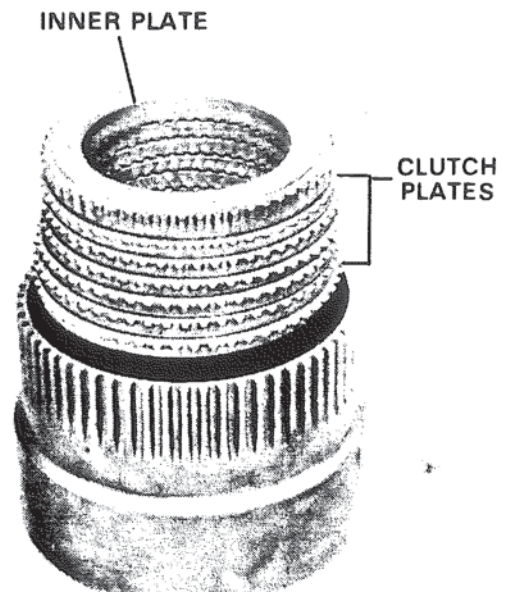

Figure 49. Installing Forward Clutch Plates.
4. Lubricate seven (7) clutch inner plates and six (6) outer clutch plates, arrange and assemble. Figure 49.